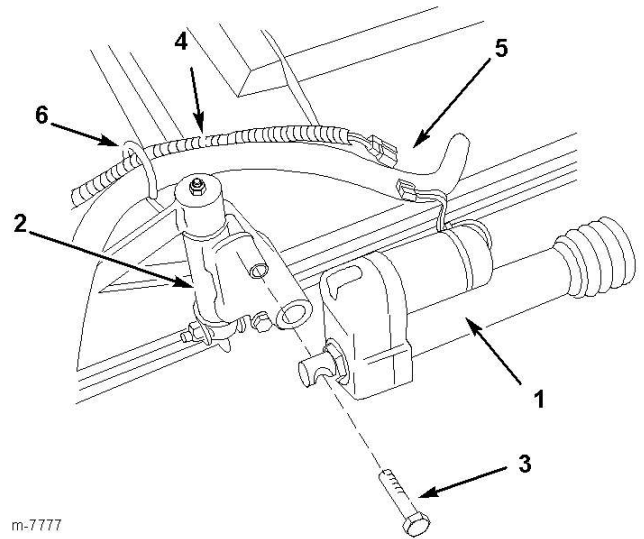

Figure 15
- Install the actuator assembly to the breakaway pivot mount using a bolt (1/2 x 5 inch) as shown in Figure 15. Connect the 6 inch extension harness to each of the actuators
- Make sure to route the wiring along the boom feed hose and through the retainer ring (Fig 15).